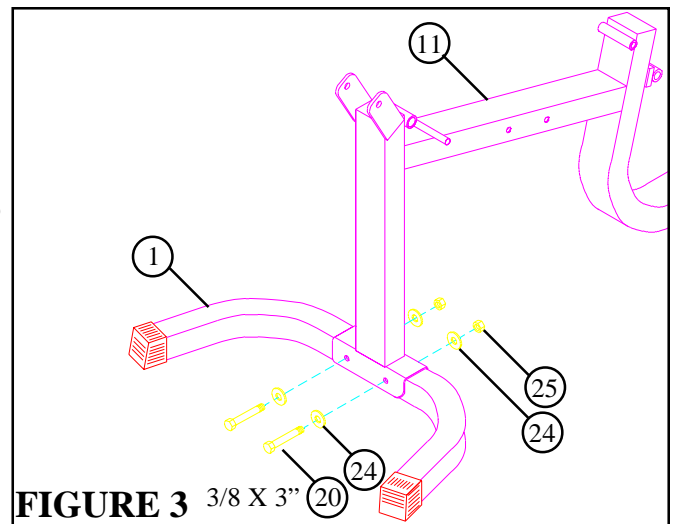

FIGURE 3 3/8 X 3"
STEP 4: Securely assemble FRONT BASE SUPPORT (1) to LEG FRAME (11) using two 3/8 X 3" BOLTS (20), four 3/8" FLAT WASHERS (24), and two 3/8" NYLOCK NUTS (25). See FIGURE 3.